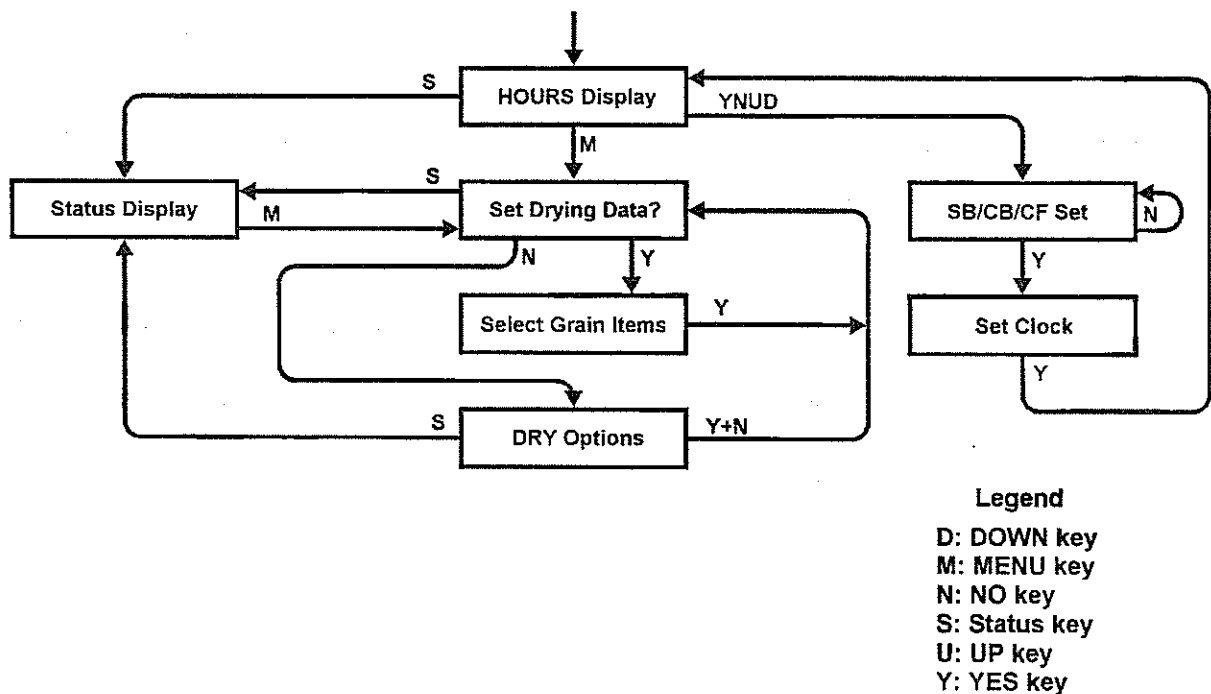

Figure 4-A Controller menu options available when the unit is set to operate in the SB mode.
4.2.1 Controller Options - The options provided the operator are shown in Figure 4-A.